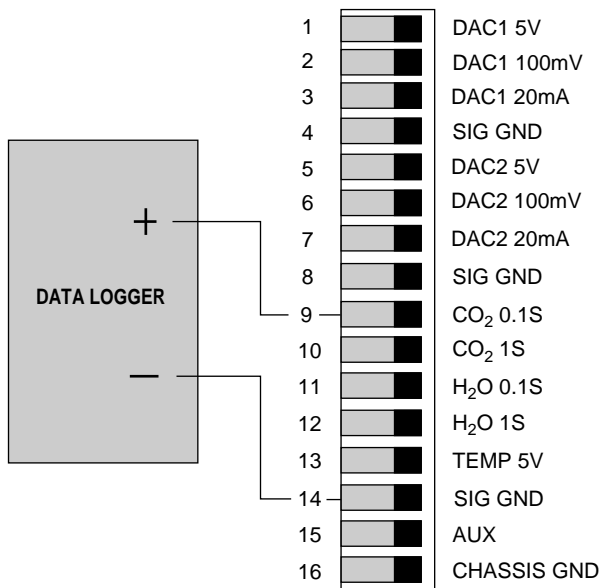

Figure 6-3. Connection of data logger for non-linear output.
- Connect the positive input of the data logger to the terminal labeled **CO2 0.1S** or **H2O 0.1S** (see Figure 6-3).